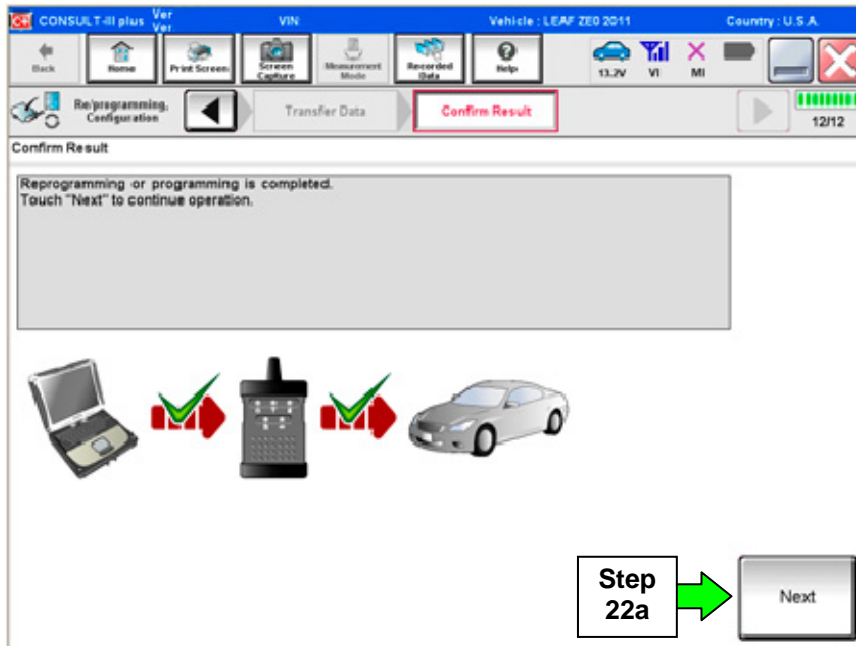

Figure 17
22. When the screen in Figure 17 appears, reprogramming is complete.
NOTE: If the screen in Figure 17 does not display (reprogramming is not complete), refer to the information on page 13.